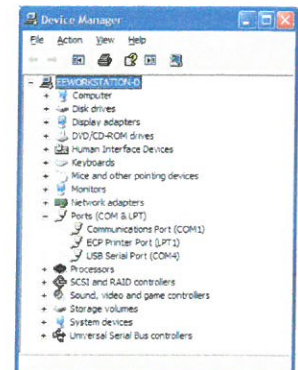

Figure 1
4.1.4. Now we need to determine what COM PORT the FTDI USB to TTL Serial Adapter is using. Open the DEVICE MANAGER by running devmgmt.msc (START->RUN->type devmgmt.msc ->OK). DEVICE MANAGER opens. Click the + symbol next to Ports (COM & LPT) and you will see "USB Serial Port (COM#)". This is the COM PORT that the FTDI USB to TTL Serial Adapter is using. Remember this COM PORT as you will need it when you run the Battpak application later (see figure 1).
4.3.5. In the upper left hand corner of the Battpak application, select the COM PORT that the FTDI USB to TTL Serial Adapter is using on your PC. Refer to step 4.1.4 (also see figure 1). Now hit the "Open Port".